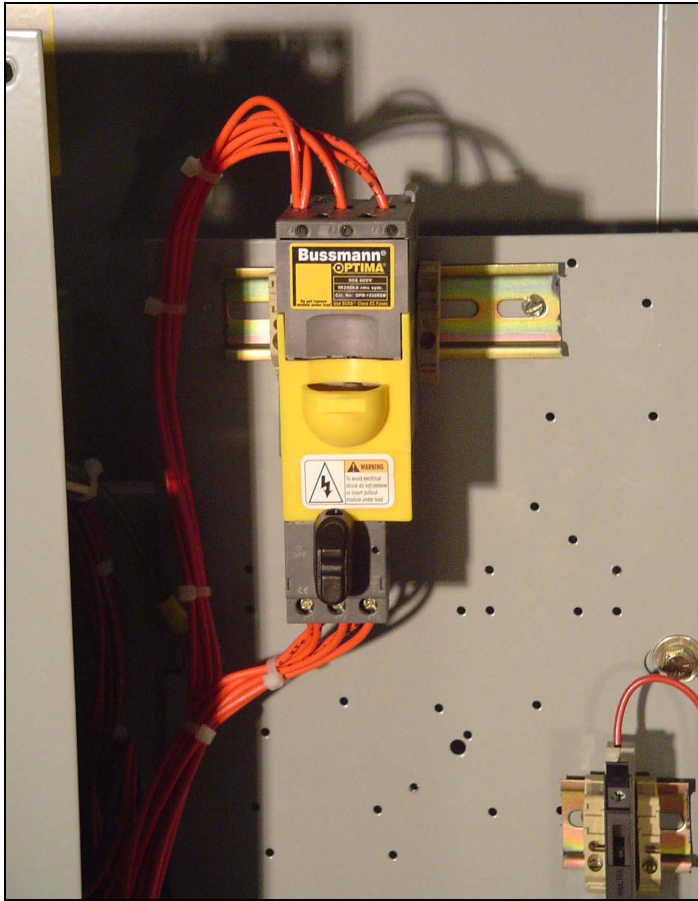

Figure 46. Source 1 Control Disconnect in the ON Position.
2. If the ATS is Service Equipment Rated with no upstream disconnect, use the Source 1 Control Circuit Fused Disconnect to simulate a power failure (Figure 46).